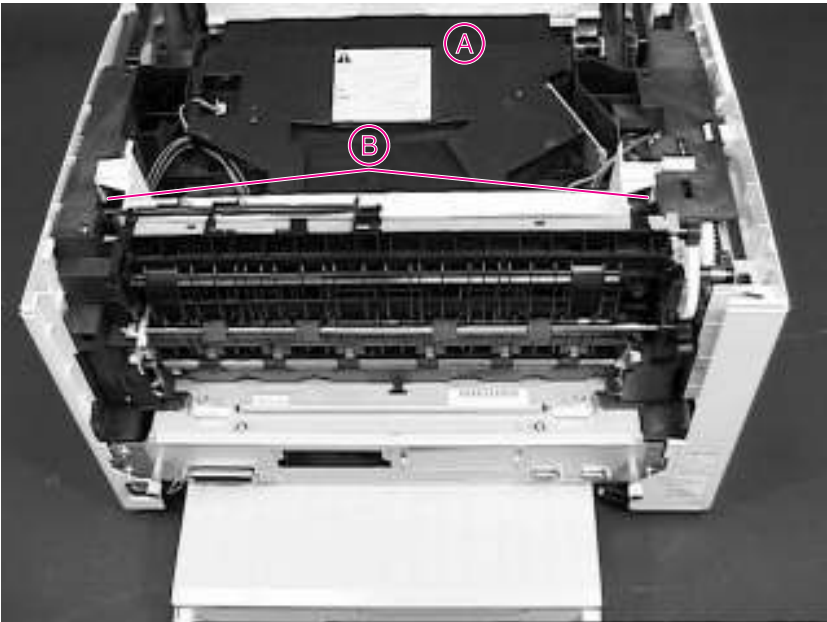

Figure 6-13 Location of Face Down Assembly Base
- 3 Squeeze the locking tabs inward, one side at a time, to release the Face Down Assembly. See Figure 6-13